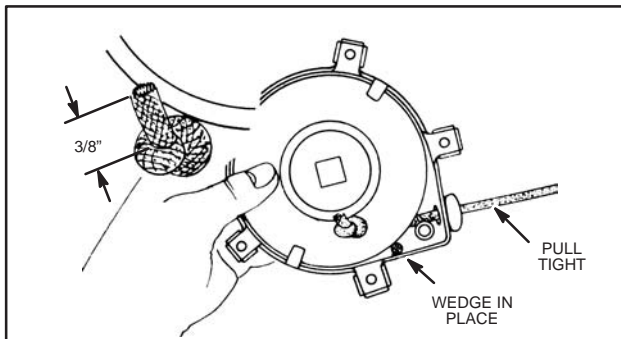

Fig. 595 – TIGHTENING KNOT
- Remove wire and tie a single knot at end of rope, Fig. 594B. Pull rope tight. Use a block of wood and compress knot until it extends not more than 13/31" above face of pulley, Fig. 595.